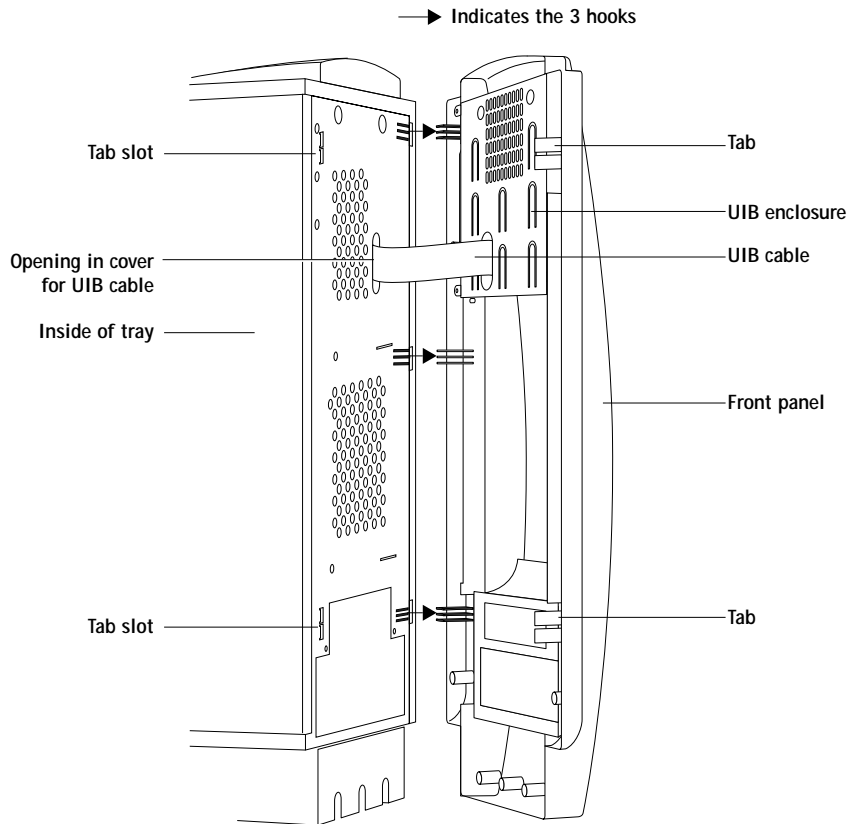

FIGURE 4-5 Removing the front panel
4. Angle the front panel so that the three hooks on the edge of the front panel line up with the cutouts on the front of the cover (see Figure 4-5).